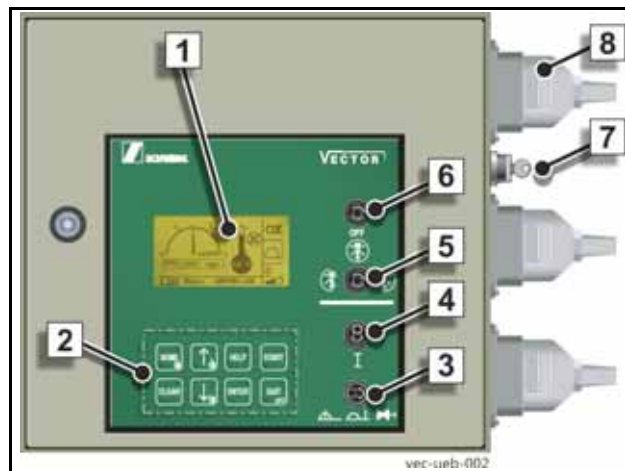

Fig. 58 Preparing the VECTOR control system
In order to drive the machine using the local control unit, the plug must always be attached to the transmitter or to the cable remote control on the switch cabinet. See example (8) (Fig. 58 Preparing the VECTOR control system).